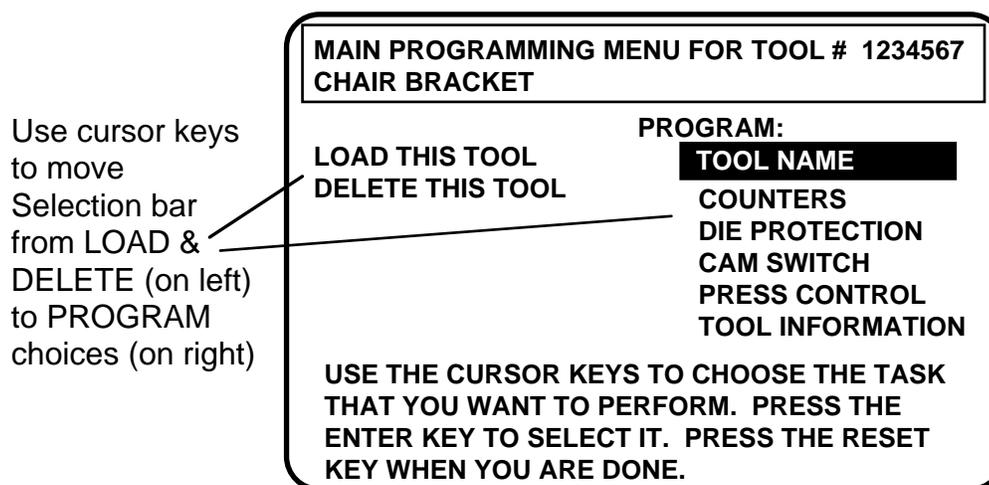

Figure 5-4. Main Programming Menu (the order may vary depending on the options installed)
This chapter describes how to use all the displays you will see in Program mode. The topics will be covered in the order that they appear on the Main Programming menu, as pictured at Figure 5-4. Specifically, it covers programmable cam-related functions, such as setting cam timing, and programming timed and auto events; and die protection-related functions, such as enabling and disabling sensors, and configuring sensors. Lastly, it covers press control-related functions, such as: setting top stop angle, minimum and maximum press speed limits, and counterbalance setpoint.
3. Press Enter after keying in the tool number. You will see the Main Programming menu display (Figure 5-4). Once you are done, go to "Set tool name".
3. Press Enter to select the tool. The next screen that appears is the "Main Programming menu" (Figure 5-4). Next, go to "Set tool name".
- Select "Counters" from the Main Programming menu (Figure 5-4):